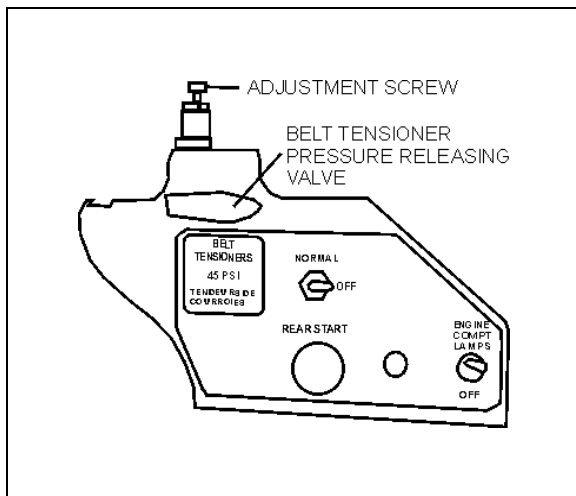

FIGURE 21: AIR PRESSURE REGULATOR
1. Open engine compartment rear doors and locate the belt tensioner pressure releasing valve (Fig. 21), mounted above the engine R.H. side door next to the air pressure regulator, then turn handle clockwise in
4. Reset belt tensioner pressure releasing valve (Fig. 21) to 45 psi (310 kPa) to apply tension on the new belts as explained in Section 12.